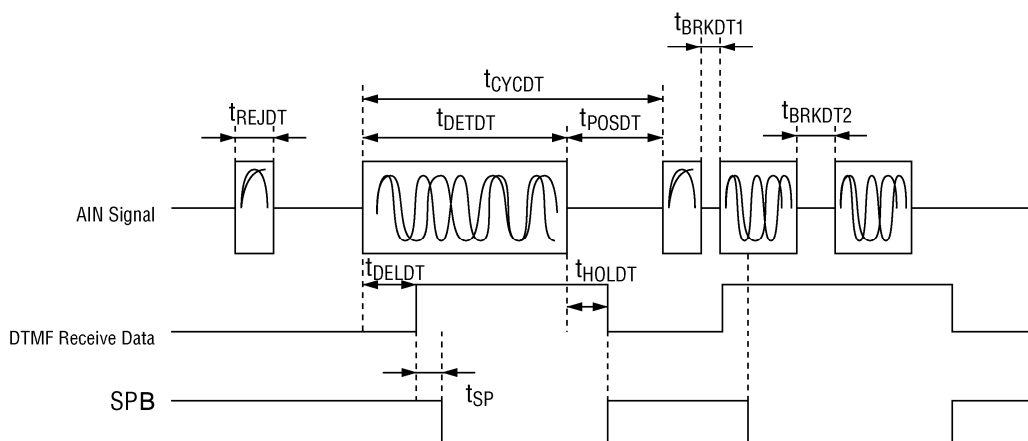

Figure 3 Timing When DTMF is Received
- *1 See the figure 3 for timing.